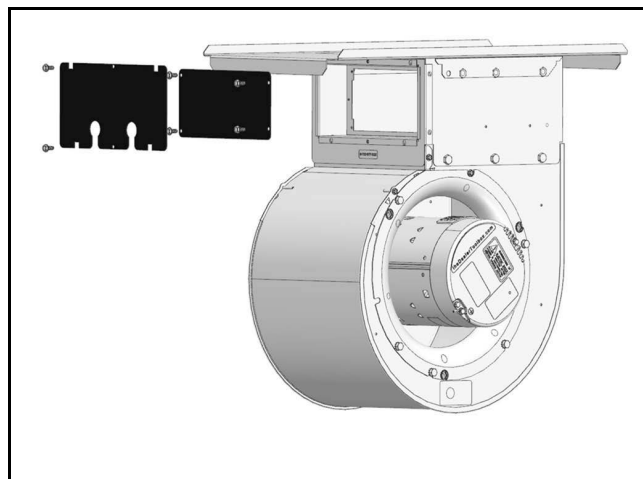

Fig. 11 Heater Collar Cover Plate and Blank Plate
1. Remove the heater element cover and the adapter plate from the unit's heater collar. (→Refer to Fig. 11.)